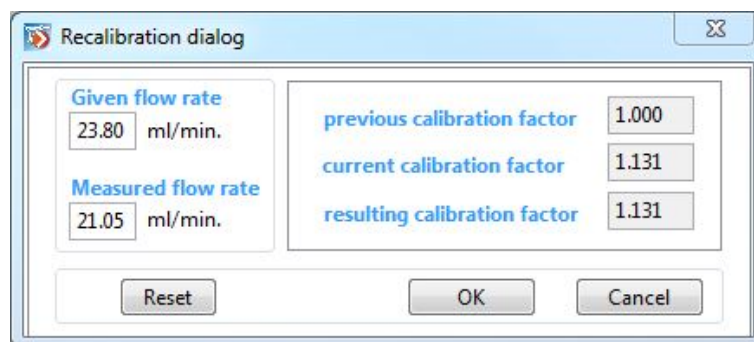

Figure 35: Recalibration dialog in the PumpControl software.
1. Click on the “Recalibration factor” button to open the dialog (Figure 35).
2. Insert the given flow rate and the one that was measured of yourself in the recalibration dialog (Figure 35). Then press “OK”.